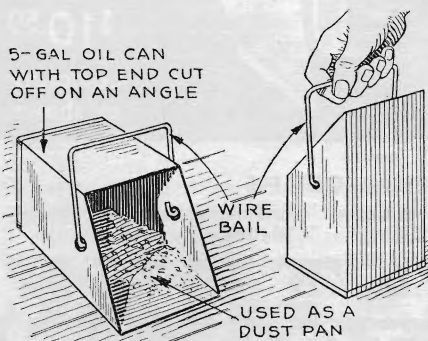

Fig. 2. Cutting away the top half of old oil can and fitting on handle makes a dustpan
**M**OST owners of home garages have an old five-gallon can on hand. Use this to make the useful dustpan shown in Fig. 2. With a pair of tin shears, cut away the top half diagonally and then fit a wire bale handle. Place the holes for the handle close to the open end so that when you lift on it, the open end will swing up and allow the debris to slide toward the closed end of the container.